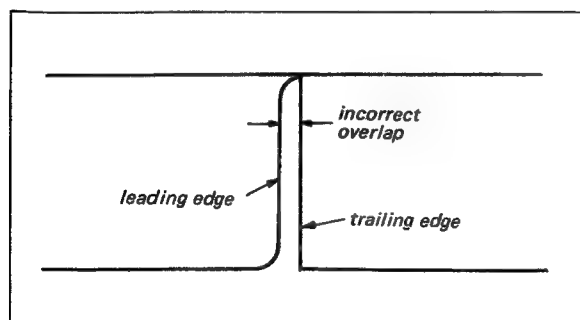

Fig. 6-9. 30 PG Pulse phase Check
5. Pull out the 5X magnifier and adjust the HORIZONTAL POSITION control to observe the leading edge of either pulse. See Fig. 6-9.
11. Start the motor again and check the waveform in Fig. 6-9.